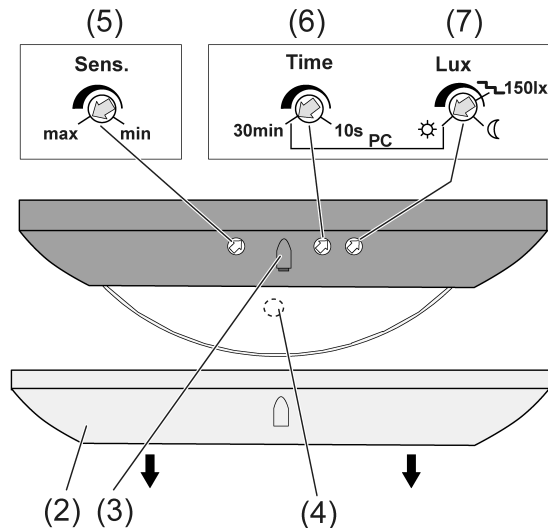

Figure 4: Adjuster
After transmission, the status LED (4) (Figure 4) flashes slowly after 3 seconds. The batteries are almost empty and should be replaced (see chapter “Inserting batteries”).
- Align the device so that the brightness sensor (3) (Figure 4) is on the side away from the windows. This reduces the effects of scattered light.
i If the sensor is to be operated with the factory settings, the adjusters **Time** (6) and **Lux** (7) (Figure 4) must be in position **PC** before inserting the batteries. If this is not the case, the values for the run-on time and the brightness threshold are replaced by the values entered at the adjusters. To use the values of the factory setting again, the sensor must be reset to the factory setting (see chapter “Resetting the sensor to factory setting”).
- Turn adjuster **Sens.** (5) (Figure 4) in **max** direction for higher sensitivity or in **min** direction for lower sensitivity.
- Turn adjuster **Time** (6) (Figure 4) to the desired value.
- Turn adjuster **Lux** (7) (Figure 4) to the desired value.
- Turn adjuster **Time** (6) and **Lux** (7) (Figure 4) to **PC** position.
- Press the **Prog.** (3) button (Figure 4) for longer than 20 seconds.
- Press the **Prog.** (3) button (Figure 4) for longer than 4 Sekunden.
Status LED (4) (Figure 4) flashes. The sensor is in programming mode for approx. 1 minute.
- Press button **Prog.** (3) briefly.
- i** If the sensor detects movement during the walking test, it switches on the connected actuator for approx. 1 second. If the brightness threshold is not reached, the status LED (3) (Figure 4) lights up for approx. 1 second. If the brightness threshold is exceeded, the status LED (3) flashes quickly for approx. 1 second. In order for the shortened run-on time of 1 s to be effective in the actuator during the walking test, a longer run-on time must not be active in the actuator when the walking test is activated. Ideally, the walking test is activated when the actuator is switched off.
- To activate the walking test: Press **Prog** button (3) (Figure 4) for less than 1 second.
- To exit the walking test: Press **Prog** button (3) briefly or wait for approx. 5 minutes.